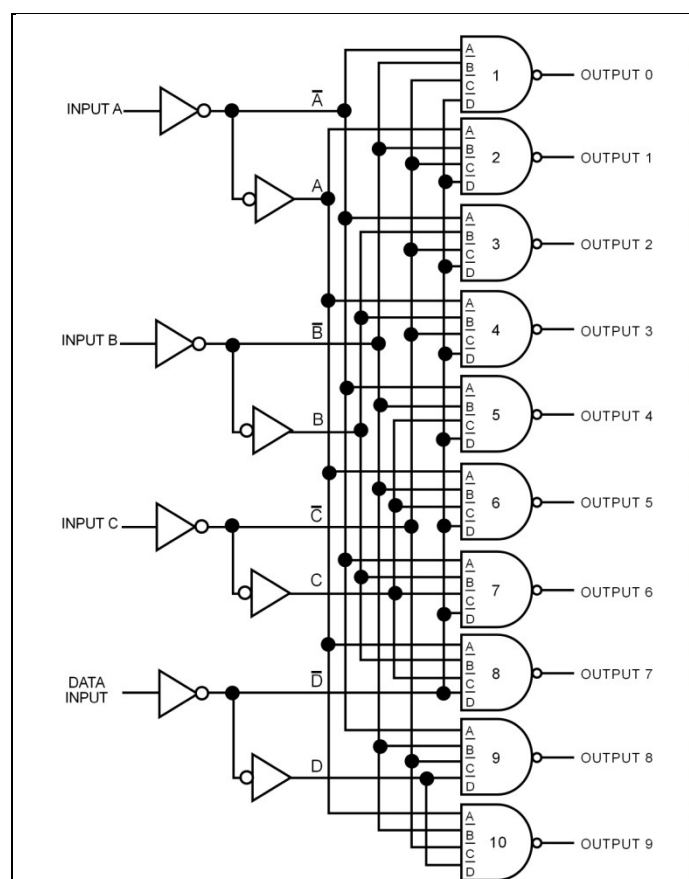

Fig. 3.5-4 TTL 74LS42 BCD to Decimal Decoder
A typical BCD to decimal decoder is shown in Fig. 3.5-4. The four bit BCD number with bits designated A, B, C, AND D are applied to  $\sim$ e inverters which generate the normal AND complement versions of five inputs to be applied to the decoder gates. A-Bit is the LSB. Note also that NAND gates are used instead of AND gates for the decoding process. When all of the inputs to a NAND gate are binary 1, its output will be binary 0. For all other input combinations, the output will be binary 1. For that reason, all of the outputs from the gates in this decoder are high except the one decoding a specific input state in other words, the decoder outputs are active low (0).
the inputs, one of the ten output lines goes low indicating the presence of that particular BCD number. The outputs of such a decoder are generally used to light LEDs or incandescent lamps decimal numbered 0-9, as shown in Fig. 3.5-4. The four bit BCD number with bits designated A (**LSB**), B, C and D (**MSB**) are applied to the inverters, generating the normal and complements of the inputs to be applied to the decoding gates. The NAND gates are used instead of AND gates for the decoding process so that when all the inputs to a NAND gate are binary 1s, its output will be binary 0 (active low). For all other input combinations the output will be binary 1 (non-active high) and for that reason, all of the outputs from this decoder are high except the one decoding a specific input' combination.
The decoder circuit in Fig. 3.5-4 can be readily constructed using discrete NAND gates and inverters. Fig. 3.5-4(a) depicts internal schematic of the 74LS42 decoder IC and Fig. 3.5-4(b) shows the corresponding pin-outs. Table 3.5-1 shows the truth table
shown in **Fig. 3-5(a)**, accepts a parallel 3-bit input word  $2^3$  (8) to decode any one of eight possible outputs 000-111 (0-7). The 74LS42 BCD to decimal decoder circuit in Fig. 3.5-4 can be used as an octal decoder by simply using the A, B, and C inputs only. The D input is simply wired to a binary 0 condition and the 8 and 9 outputs from gates 9 and 10 are ignored. The 74LS154 4-16 hex decoder, as shown in Fig. 3.5-5(b), decodes any one of  $2^4$  (16) states represented by 4-bit input combinations, 0000-1111 (0-15).